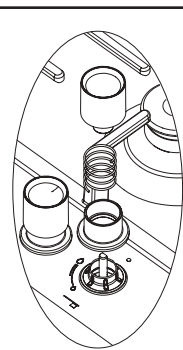

Figure 4
1. Put the hob burners in a low position and pull out the hob control knobs on the control panel. (See figure 4)